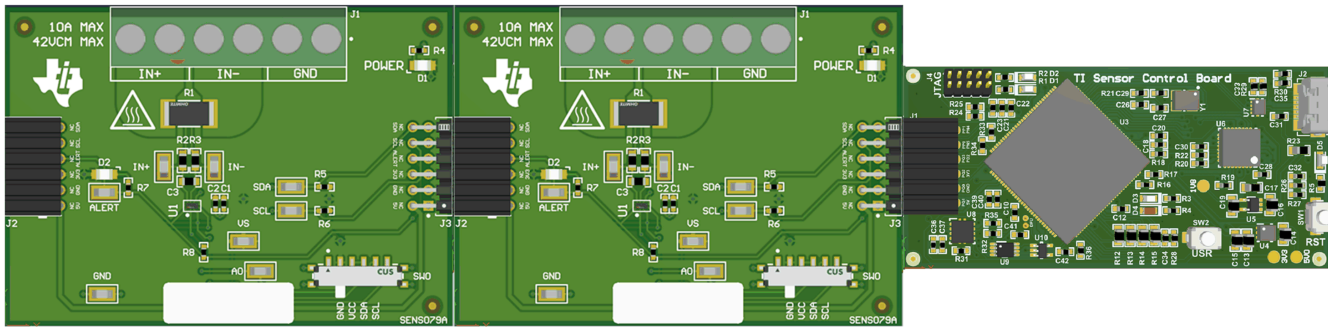

Figure 4-2. Multiple EVMs Connected to SCB Controller
- a. Refer to Figure 4-2 when connecting multiple EVMs of the same type together.
If using multiple EVMs, connect them as shown in Figure 4-2. Make sure to use a different chip address for each device. The GUI only supports one EVM/device type at a time.
- ii. Set the **Number of EVMs** drop-down menu to the number of EVMs currently in use. See Figure 4-2 to see how to attach multiple EVMs together. Use the onboard switch(es) to select a different address for each EVM. The GUI only supports one EVM/device type at a time.